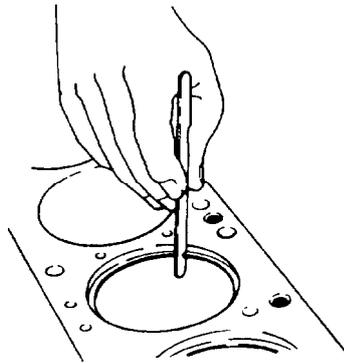

Figure 45 Checking the Piston Ring Gap
- v. Check the piston ring gap by installing the piston rings in the cylinders and measuring the gap with feeler gauges (Figure 45). Refer to Table 7 for the correct ring gap limits.